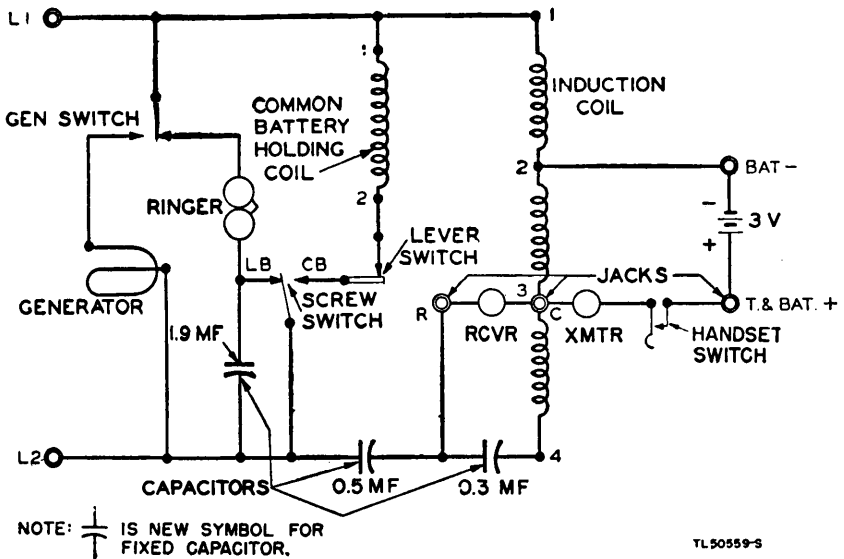
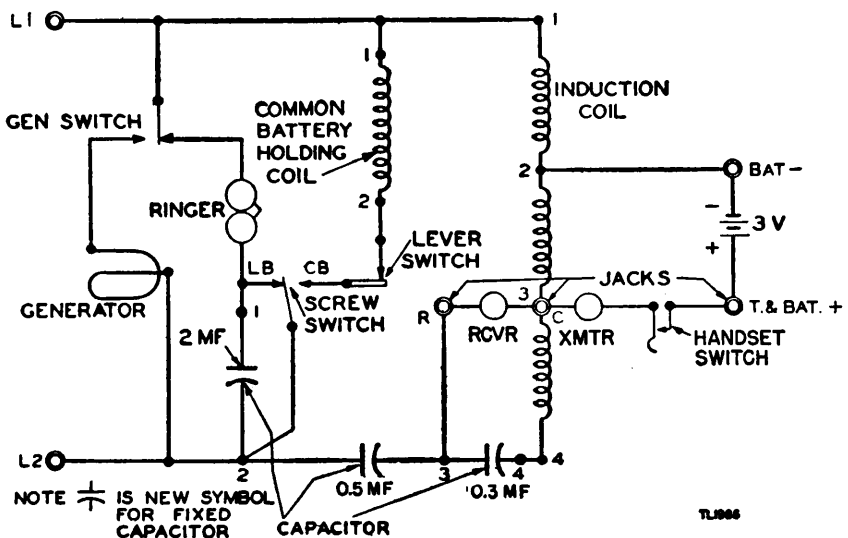

Figure 25. Telephone EE-8—schematic diagram.
Figure 26. Telephones EE-8-A and EE-8-B—schematic diagram.
*e.* INDUCTION COIL. The induction coil (Coil C-105) is an autotransformer with one continuous winding tapped at terminals 2 and 3 so as to form the 1-2 section, the 2-3 section, and the 3-4 section. (See figs. 25 and 26.)
*g.* CAPACITORS. In Telephone EE-8, three physically separate capacitors, of 1.9-mf, 0.5-mf, and 0.3-mf capacitance are used. (See figs. 25 and 27.) In Telephones EE-8-A and EE-8-B, Capacitor CA-355 comprises a 2.0-mf, a 0.5-mf, and a 0.3-mf capacitance element, all assembled into one container and internally connected to the terminals numbered 1, 2, 3, and 4. (See figs. 26, 28, and 29.)
The schematic diagram of Telephone EE-8 is shown in figure 25 and the schematic diagram of Telephones EE-8-A and EE-8-B is shown in figure 26.
- (3) Complete schematic diagrams (figs. 25 and 26).
- (4) Voltage and resistance chart (par. 49).